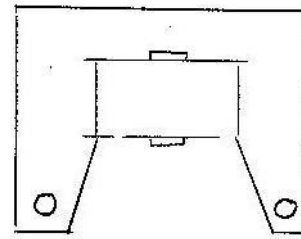

Figure 2
- Step 7: Using tin snips, cut on an angle an opening in the front of the coil piece. This will allow the metal seesaw to rest in front of the upside-down coil. Please refer to **Figure 2**.